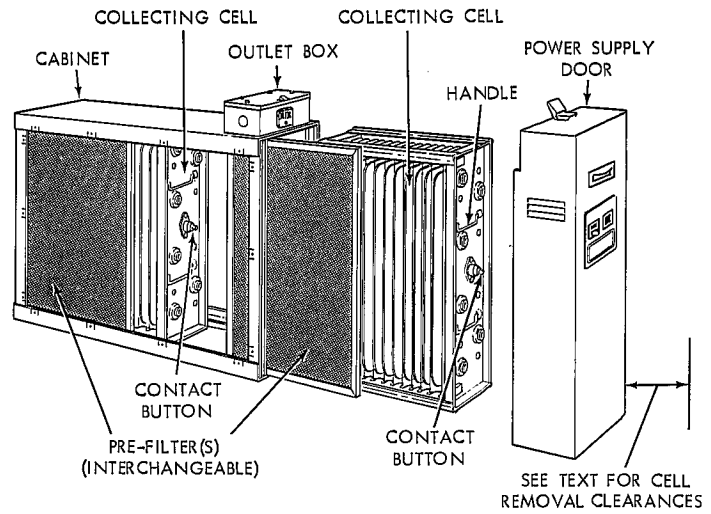

Figure 4
2. Allow the following clearances to permit removal of cells and pre-filters: (See figures 4 and 5)
Your air cleaner is shipped from the factory with air flow from left-to-right. If this air flow is suitable for the installation, no further changes need to be made (figure 4). For right-to-left air flow, remove both pre-filters and cell sections. Turn cells upside down (with the same end facing the cabinet opening). This will locate the ionizing wires at the right, and both contact buttons and cell handles will be facing the power door. Air flow direction
1. Place the air cleaner on the floor. Stand it upright with the power door facing you (figure 4). If a horizontal installation is being planned, lay the air cleaner on its side, this will help you to visualize the relative location of all parts.
2. Release the latch, remove the power door (by grasping handle and pulling door away from cabinet) and set it aside (figure 4). Remove the collecting cells and pre-filters. Set pre-filters and cells aside in a safe location until the cabinet is installed.